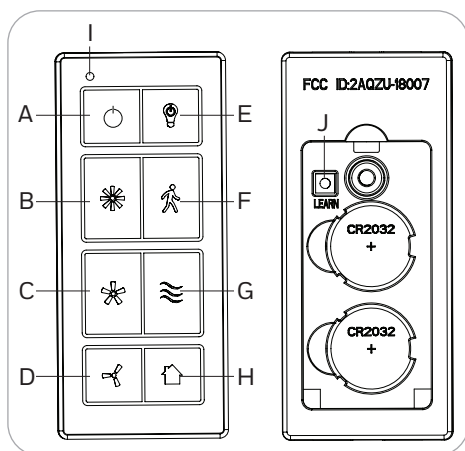

Figure 7.1
- To operate the fan using the remote, press and release the following buttons (Figure 7.1):